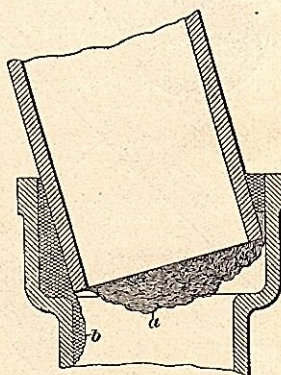

FIG. 15
**15.** The crooked joint shown in Fig. 15 is a common defect due to carelessness, and should be condemned on general principles. The work should be rearranged and a proper joint made; if the crooked joint is due to a defective fitting, a good one should be substituted. In a crooked joint, the oakum is liable to be driven through, as shown at *a*, and the lead is liable to run through, as at *b*, owing to the difficulty of introducing the oakum into the base of the socket.